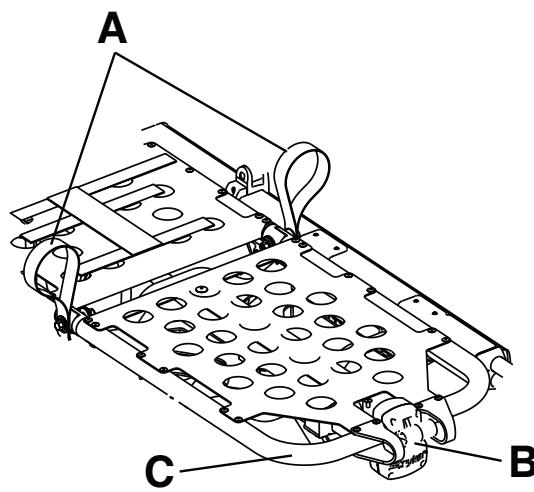

Figure 15 – Gatch
1. Lift either of the red lifting loops (A) until the knee Gatch is in the highest position (Figure 15).